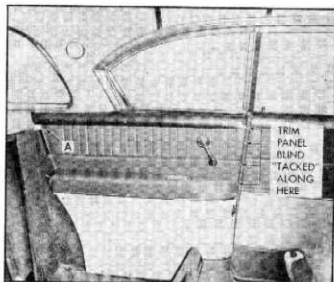

Fig. 27—Sport Coupe Rear Quarter Trim
2. Remove screws retaining rear quarter arm rest assembly (fig. 27).